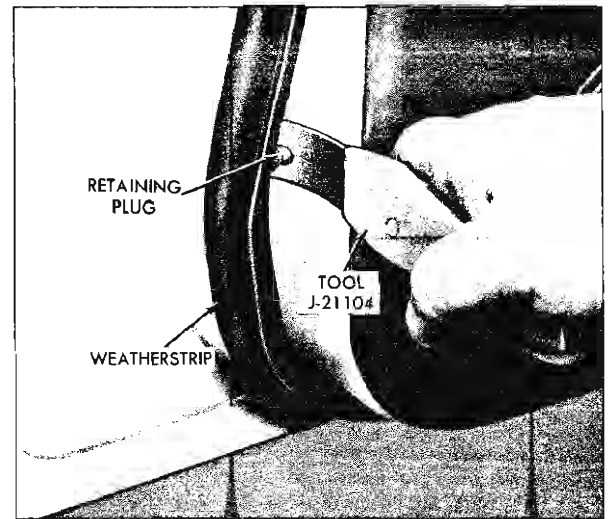

Fig. 3-15 Using Tool J-21104
3. Slide tool J-21104, or other suitable tool, under weatherstrip at a fastener location and grip fastener as close to door panel as possible; then, gently pry fastener out of its respective door piercing (See Fig. 3-15).
2. Slide tool J-21104, or other suitable tool, under weatherstrip at a fastener location and grip fastener as close to door panel as possible; then, gently pry fastener out of its respective door piercing (See Fig. 3-15).